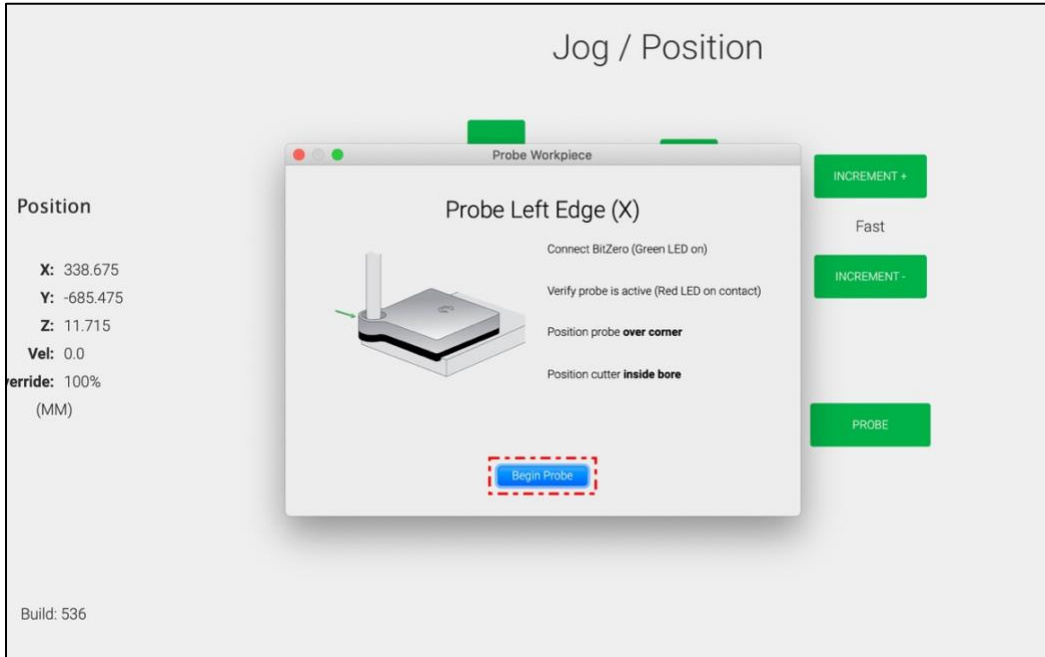

Figure 28
NOTE: Make sure your setup matches the graphic shown onscreen for the probe cycle you have selected. See *Figs. 28* and *29*. If your setup does not match, the calculated zero location will be incorrect.
10. Click the **Begin Probe** button to start the probing sequence. See *Figs. 28* (X-only) and *29* (Y-only).